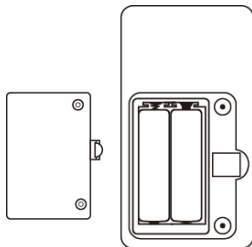

Figure 4. Batteries Installation
- A. Refer to Figure 4. and insert the two AA size batteries properly in the right direction.